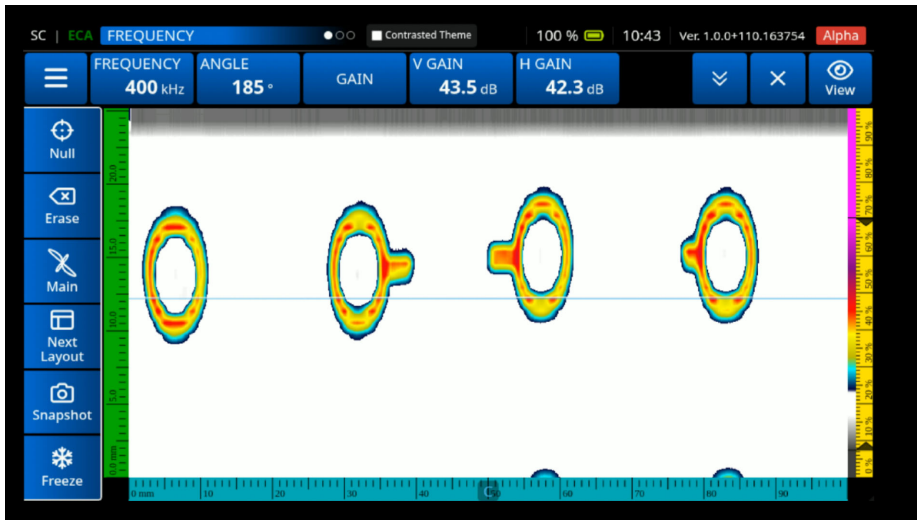

Figure 4-93 Scan the Fasteners
23. Scan the line of fasteners to confirm a good reading (See Figure 4-93 on page 186).